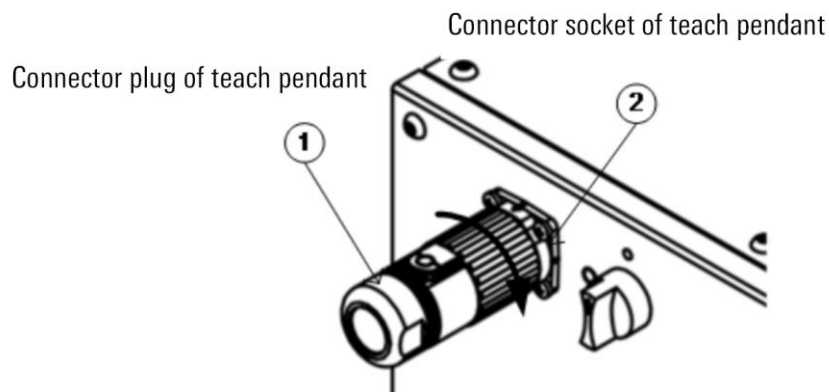

Figure 4-5 Connection of teach pendant
- When connecting, align the plane of #1 plug with that of #2 socket, as shown in Figure 4-5. At this time, align the triangle alignment symbols on the plug and the socket, and then push the connector inside. Turn the plug clockwise 45 degrees to lock the plug onto the socket.